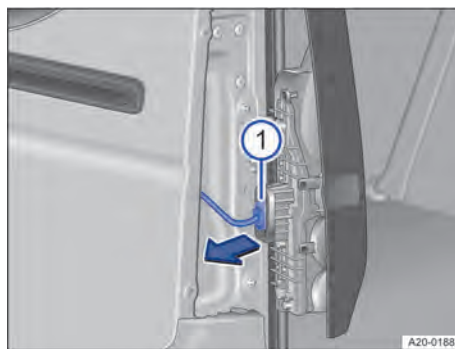

Fig. 177 On the tail lamp cluster: disconnecting the connector.
1. Pull off the connector in the direction of the arrow → Fig. 177 .
4. Plug the connector onto the bulb holder → Fig. 177 ①.